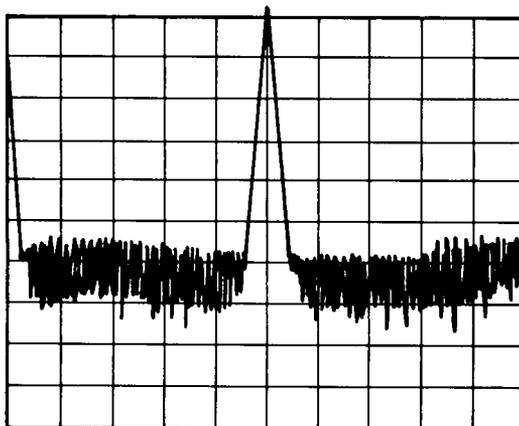

Figure 5-21. YO Loop Gain at A48J1
13. On the sweep generator press **[CW]** then adjust the rotary knob to set a frequency that will produce a center frequency readout on the spectrum analyzer of 25.0 MHz. (See Figure 5-21.) Turn off **[SIGNAL TRACK]** on spectrum analyzer.